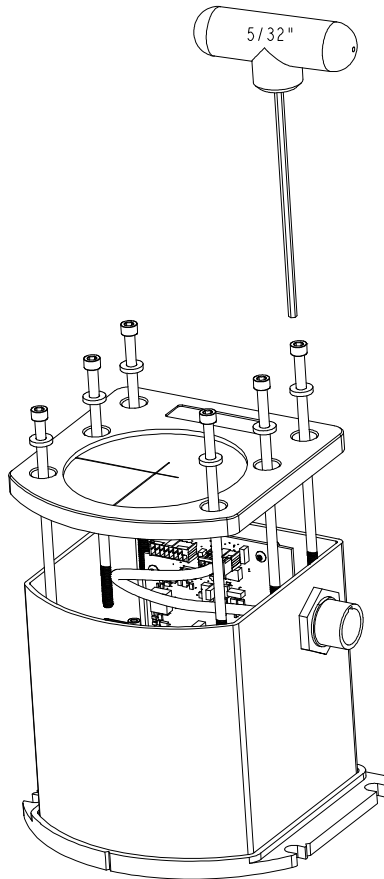
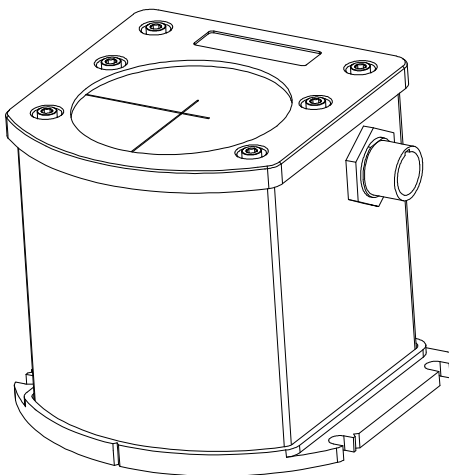

Figure 76: Bolts and Hex Key
Figure 81: LN-200 SPAN IMU
1. Remove the top cover's six bolts using a hex key, as shown in *Figure 76*:
Use a hex key to align the long bolts with the threaded holes in the base, as shown in *Figure 76* on *page 378*. Apply threadlock to threads. Finger tighten the 6 bolts then torque them in a cross pattern to 12 in-lbs. The fully assembled IMU enclosure is shown in *Figure 81*.